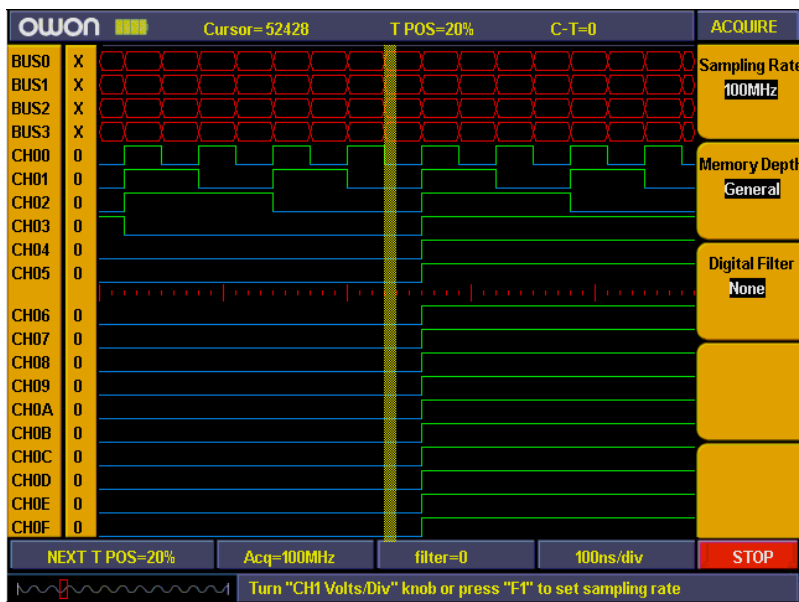

Fig. 5-53: Sampling setting
- Then sample system setting finished (refer to **Fig.5-53**).